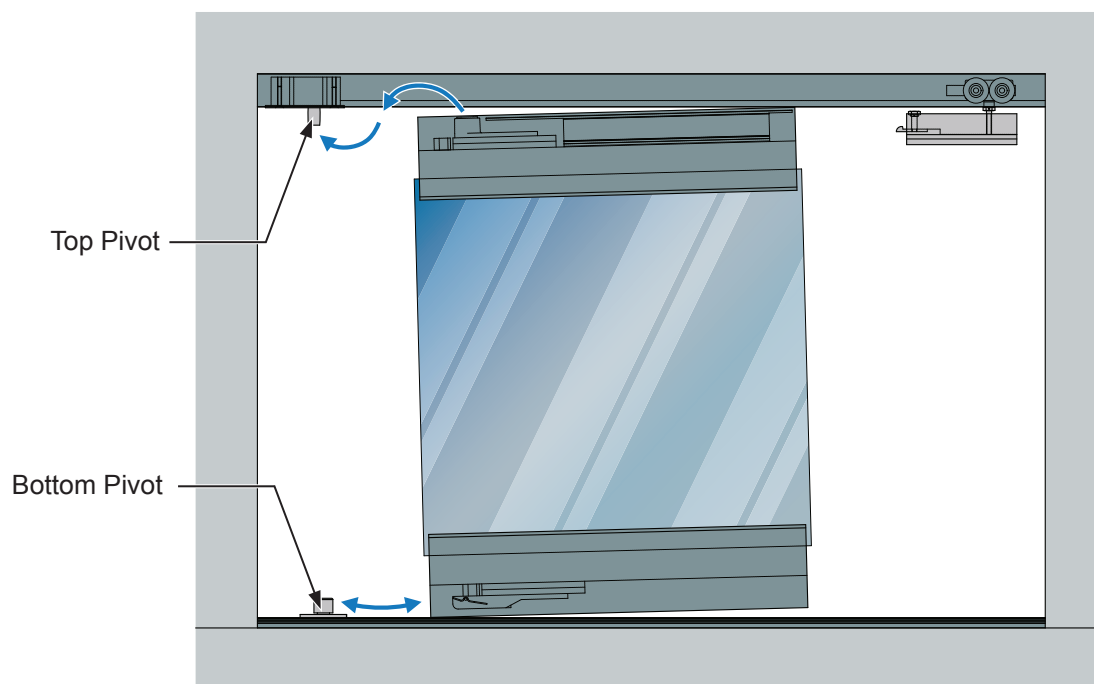

FIG. 10
1. Lift the pivot door leaf and insert the pivot receiver on the door into the top pivot. **(Fig. 10)**
2. Raise the door leaf and slide it onto the bottom pivot. **(Fig. 10)**